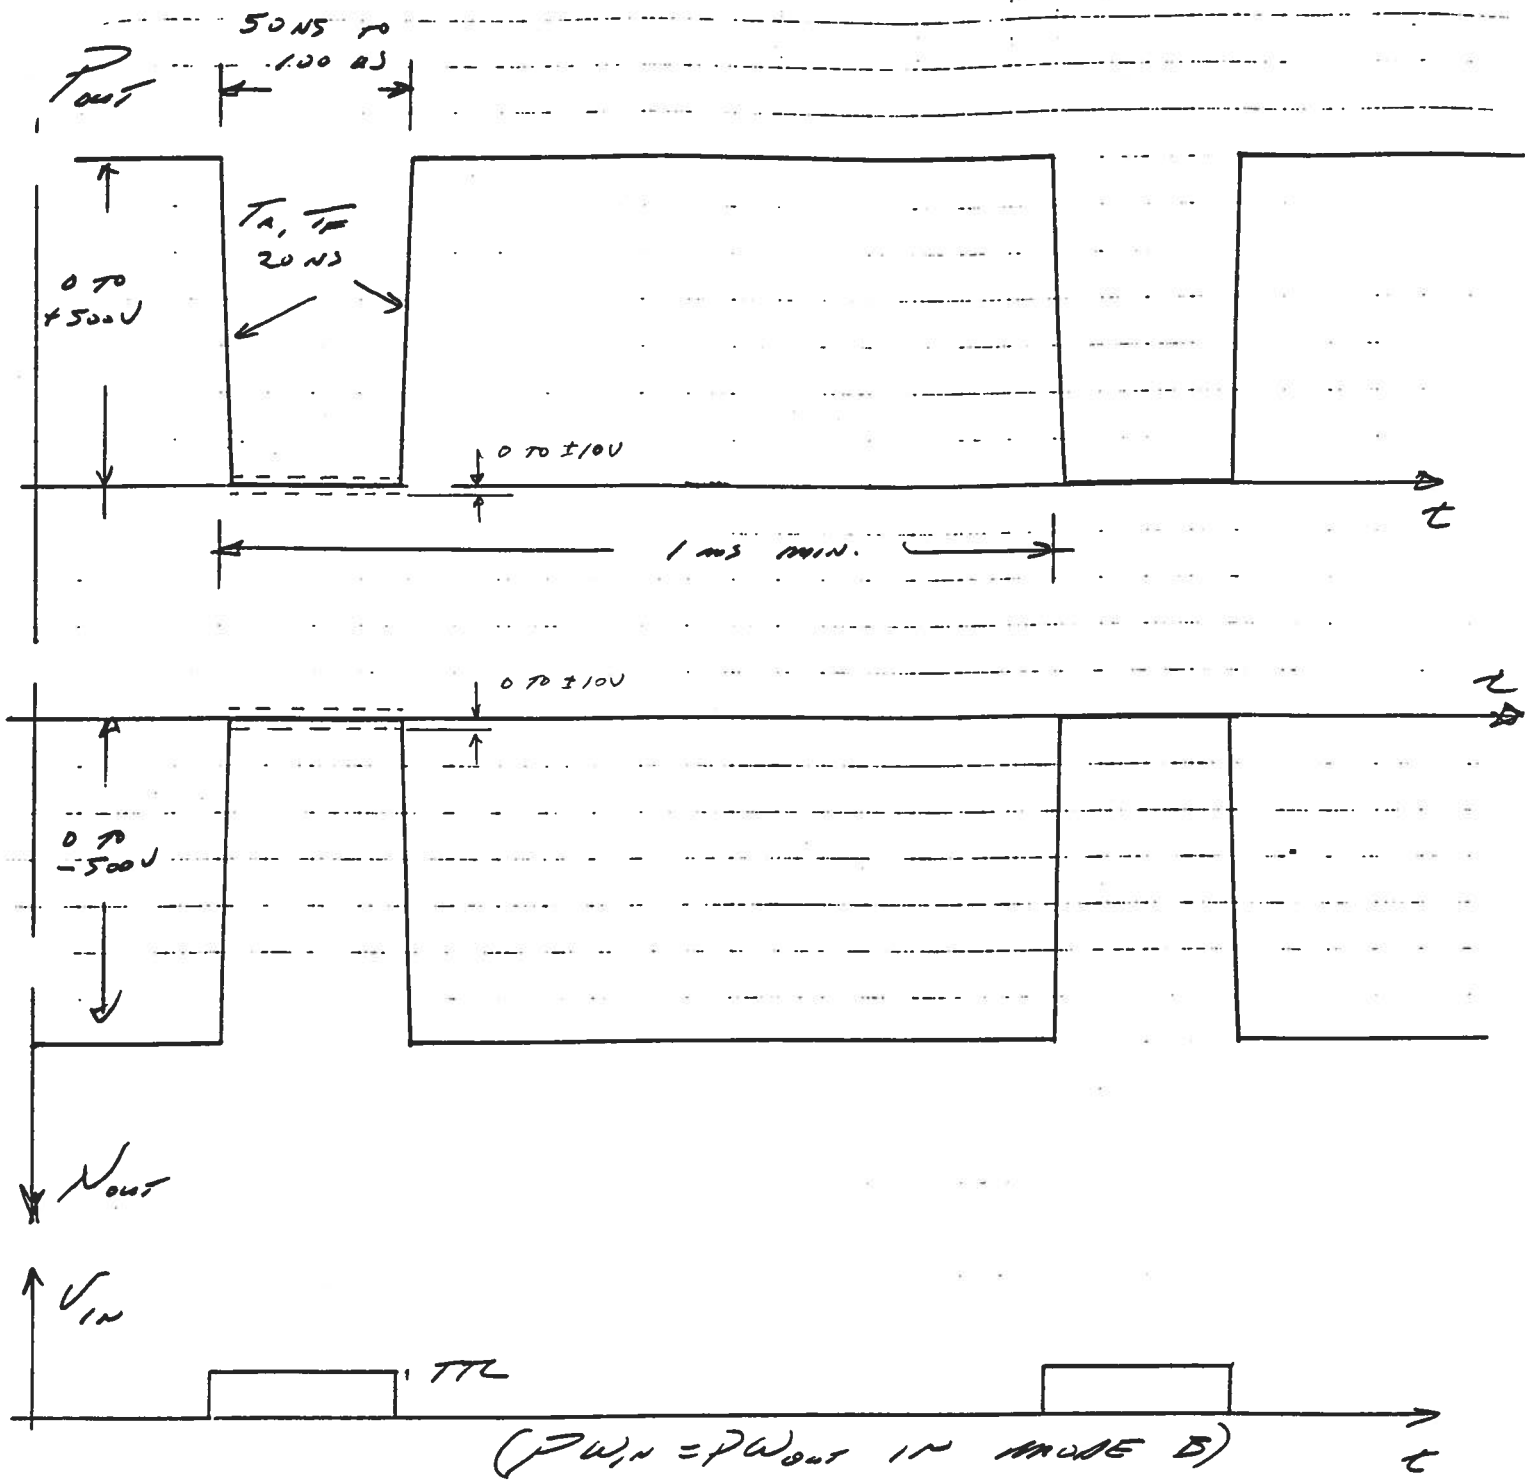

Fig 2: MODEL AVR-62-PS-pw-17KUI
- 6) The "OFF" voltage (see Fig. 2) may be adjusted from 0 to  $\pm 10$  Volts using the one turn ground zero controls.